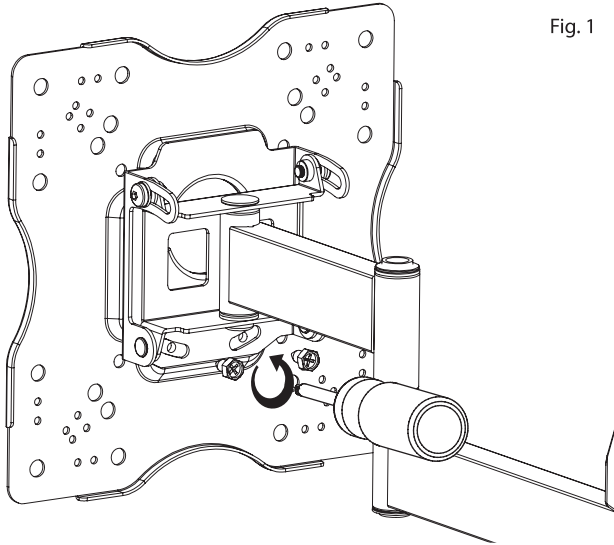

Fig. 1
Prepare the mount for installation by removing the safety screws to detach the display plate from the mount (see Fig. 1). Place the screws in a safe location.
1. Use a high-quality stud finder to locate the stud on the wall where you wish to install your mount. Mark both edges of the stud to help locate the exact centre. (Fig. 1)